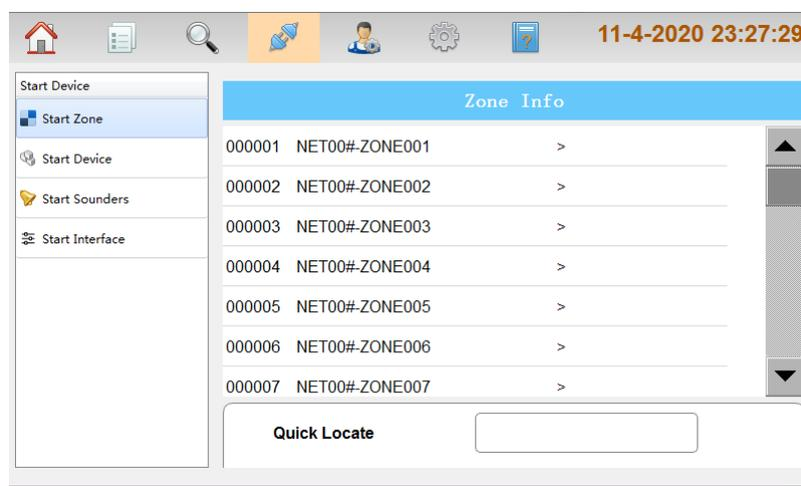

Fig. 5.2
- **Start:** clicking this button enters the screen for starting devices as shown below Fig. 5.2.